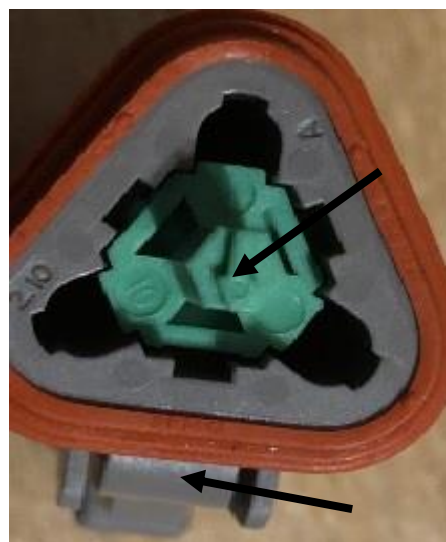

Figure 216
31. Once all the contacts are in place insert the wedge in the front of the connector. On three terminal connectors make certain that the arrow is pointing to the exterior locking mechanism. On the other connectors the wedge will only insert one way. Figure 216